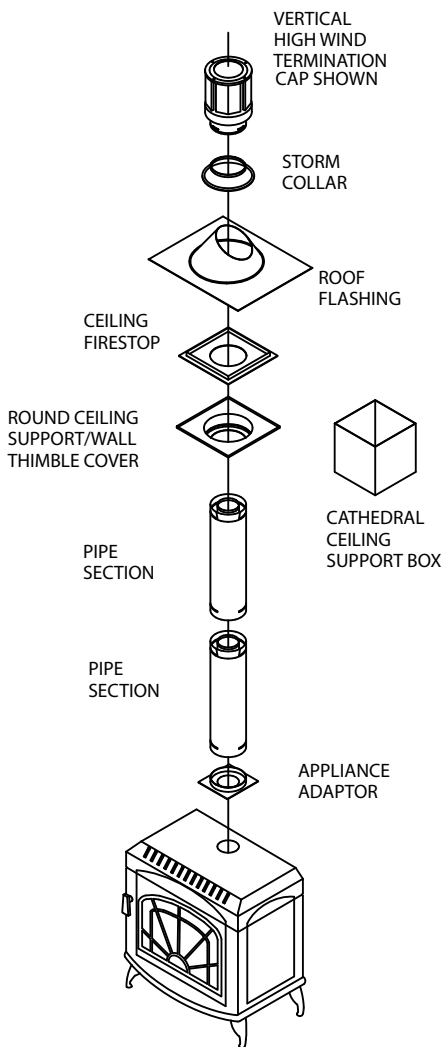

Figure 3
• Vertical Termination (**Fig. 3**)